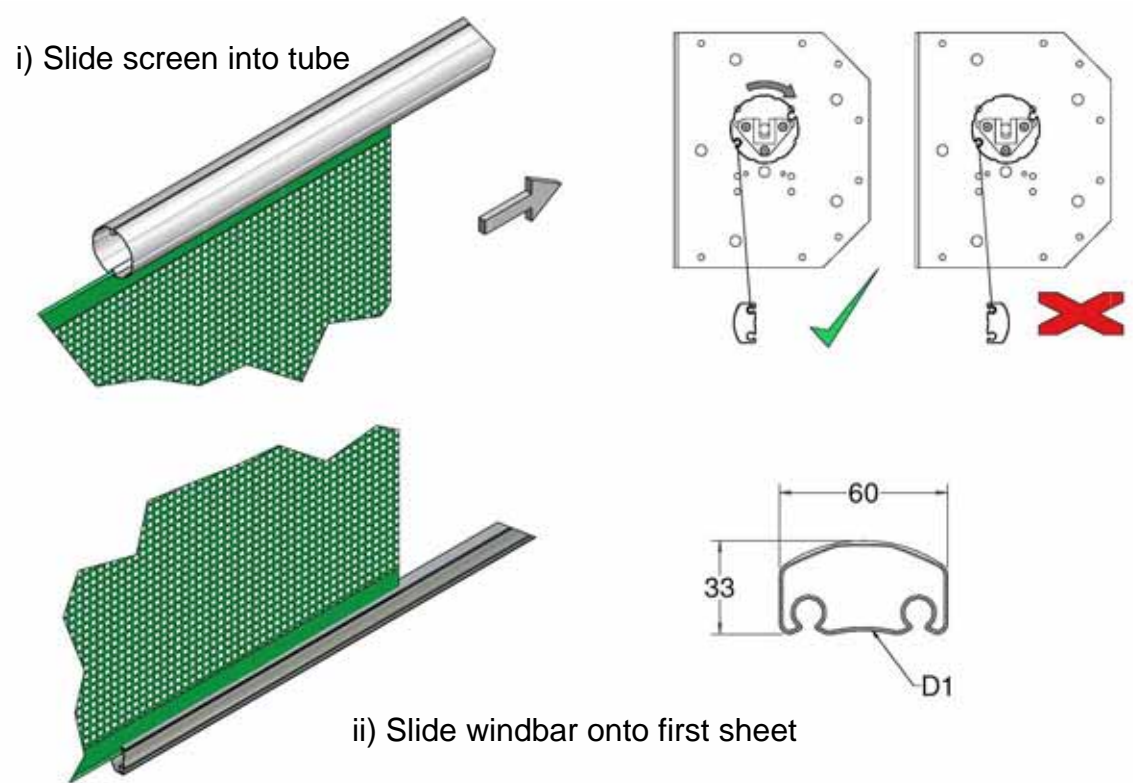

Figure 5a, Sliding Fabric Panels and Windbars onto Top Tube
4. Slide the nylon insert (found inside the windbars) into the pocket of the fabric and cut to suit, slide the fabric panels and windbars onto the top tube assembly (Figure 5a).